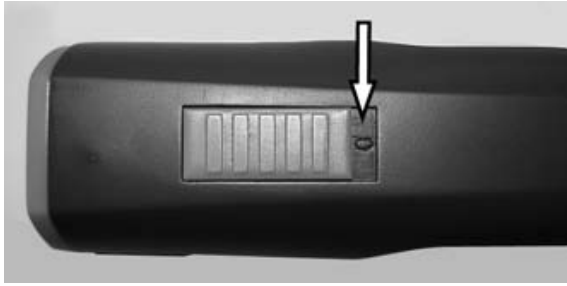

fig. 4 Switch in OFF-position ("0")
1. Test the contacts of the clipper (1) and the battery (2) for foreign particles and contamination.
2. Assure, that the switch of the clipper is in OFF-position ("0") (fig. 4).
1. Move the switch to position "0" (fig.4).
2. Push the battery interlock (2) on both sides inward and pull the battery (1) out of the clipper.
1. Move the switch to position "0" (fig. 4).